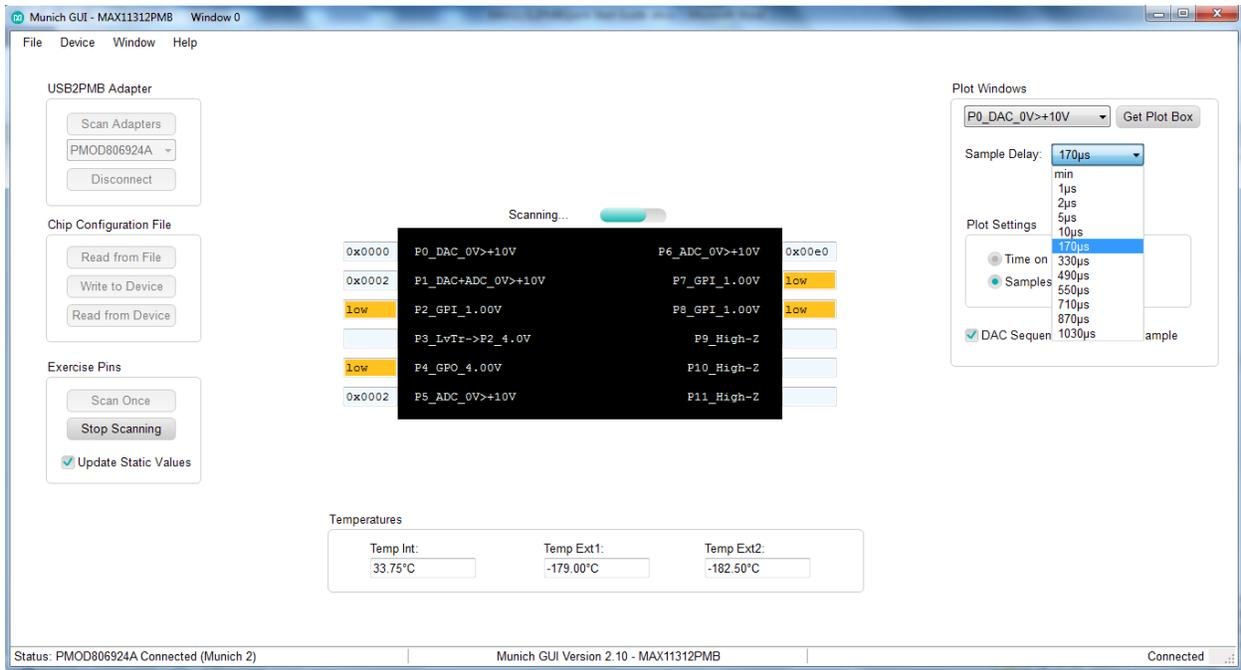

Figure 13. Sample delay drop-down menu.
- c. **Sample Delay:** This drop-down menu allows the user to select up to  $1030\mu\text{s}$  delay. This delay is enabled by the GUI between each complete sequence of ADC read. See **Figure 13**.